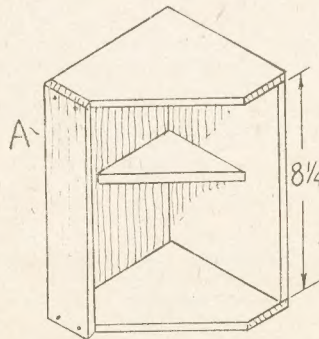

Fig. 1—Cupboard construction
The addition of a small shelf, as seen in Fig. 1, is entirely optional. Such a shelf can be useful, but should not occupy too much of the space if the cupboard is intended for medicine, or there may be insufficient room for them to stand upright.
round-headed screws at top and bottom (one is shown in position at (A) in Fig. 1) only for subsequent easy removal.